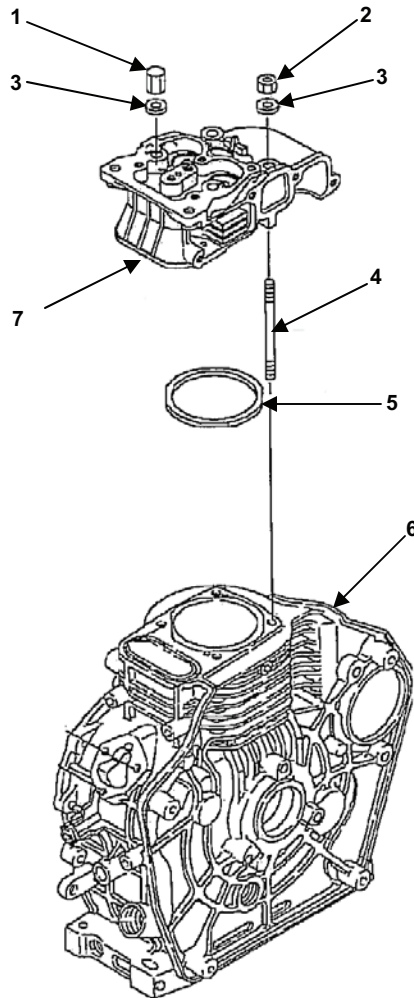

Figure 2. Removing Cylinder Head.
1. Remove two cap nuts (Figure 2, item 1) from cylinder head and two (2) nuts ((Figure 2, item 2). See Figure 2.
2. Remove four (4) washers ((Figure 2, item 3).
3. Remove the cylinder head ((Figure 2, item 7) from the engine block ((Figure 2, item 6).
4. Pull up over four (4) mounting studs ((Figure 2, item 4).
5. Remove head gasket ((Figure 2, item 5).